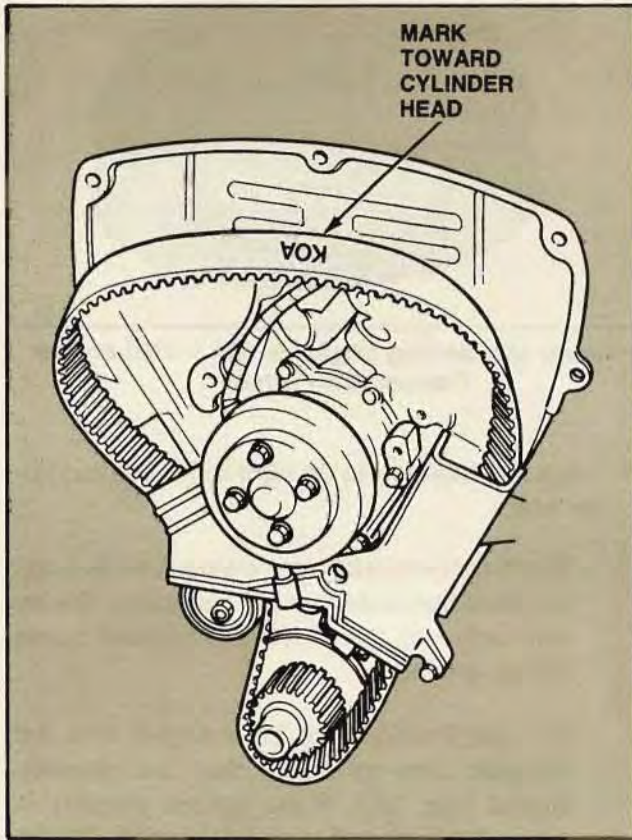

Figure 127. Installing the Timing Belt
5. Install the timing belt with the "KOA" mark toward the cylinder head (Fig. 127). Temporarily install the timing belt on the crankshaft pulley and tensioner.